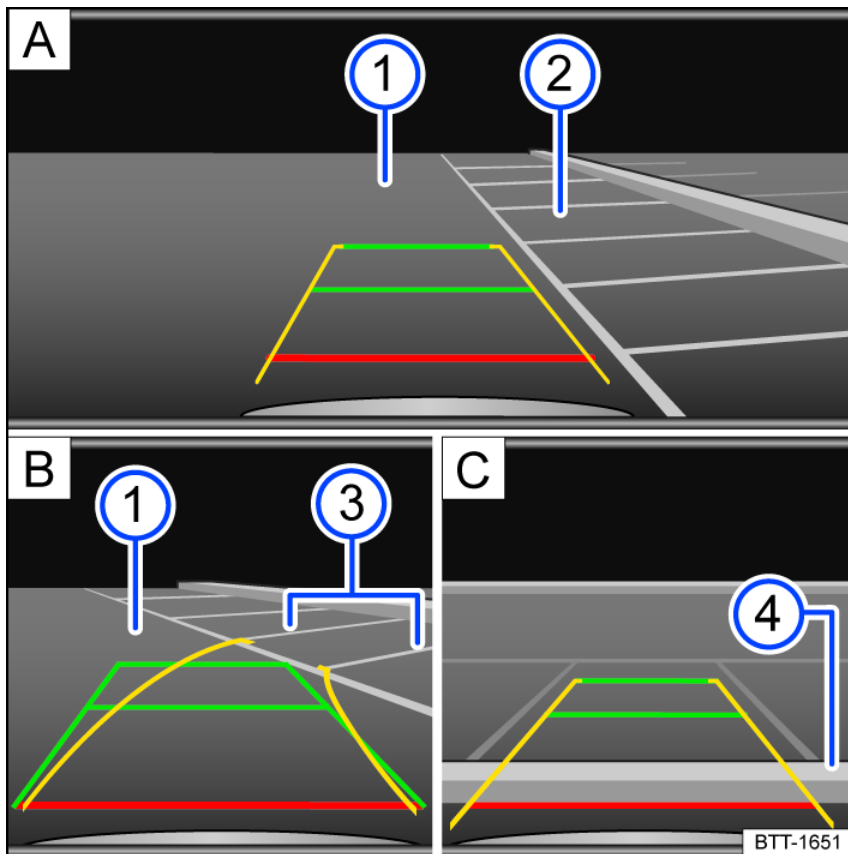

Fig. 138 Infotainment system: Parking perpendicular to the road.
① Road surface.
② Parking space.
③ Side boundary of the parking space.
④ Rear boundary of the parking space.
- Position your vehicle in front of the parking space *fig. 138 A* ②.
- Steer so that the yellow lines lead into the parking space. The green and yellow lines must align with the side boundary lines *fig. 138 B* ③.
- Stop when the red line reaches the rear boundary *fig. 138 C* ④.